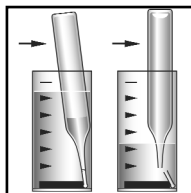

Figure 3
3. **Immediately** snap the tip by pressing the ampoule against the side of the cup. The ampoule will fill leaving a small bubble to facilitate mixing (fig 3).